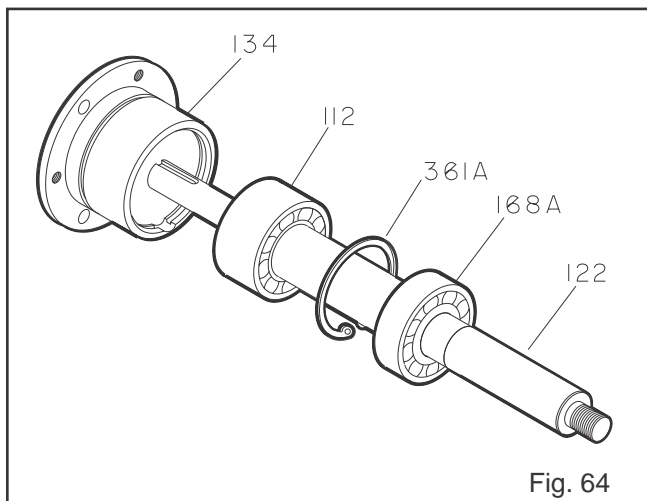

Fig. 64
4. Remove bearing housing O-ring (496).
6. Remove bearing housing (134) from shaft (122) with bearings (112A, 168A) (Fig. 64).